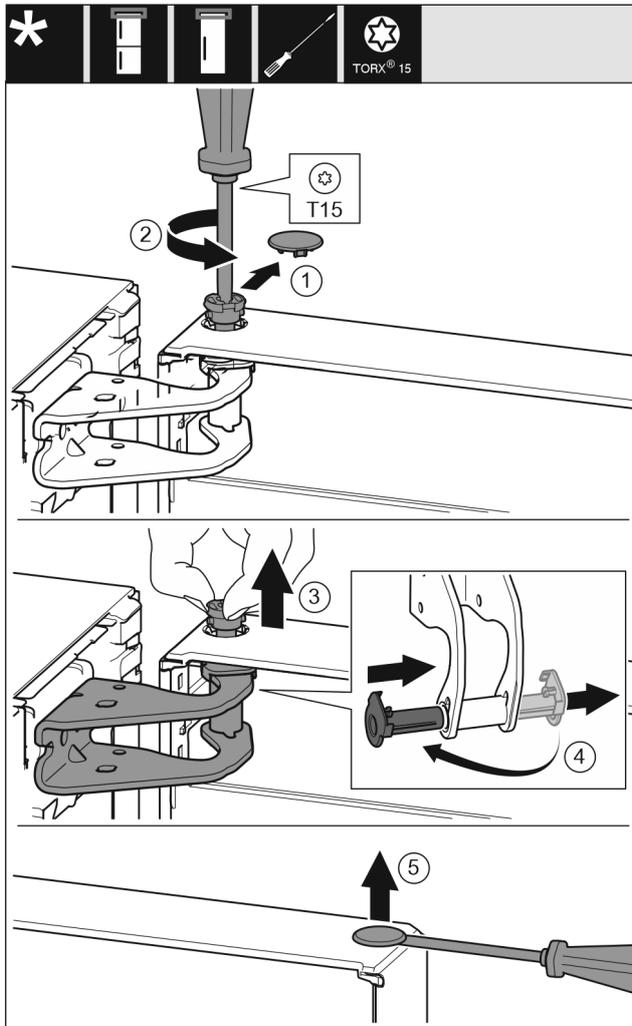

Fig. 9
- ▶ Carefully remove the protective cover. Fig. 9 (1)
- ▶ Undo the bolt a little with a T15 screwdriver. Fig. 9 (2)
- ▶ Hold the door and remove the bolts with your fingers. Fig. 9 (3)
- ▶ Pull the bearing bush out of the guide. Insert from the other side and latch into place. Fig. 9 (4)
- ▶ Carefully lift the plugs out of the door bearing bush with a slotted screwdriver and pull them out. Fig. 9 (5)